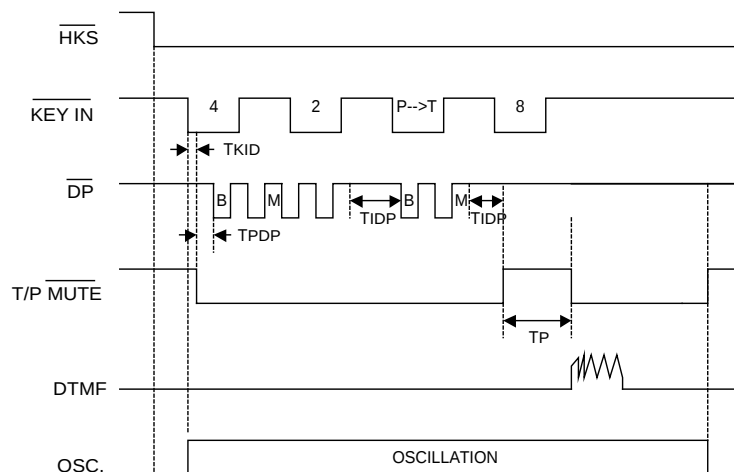

Figure 4. Pulse-to-tone Function Timing Diagram
4) The P→T function timing diagram is shown in Figure 4.